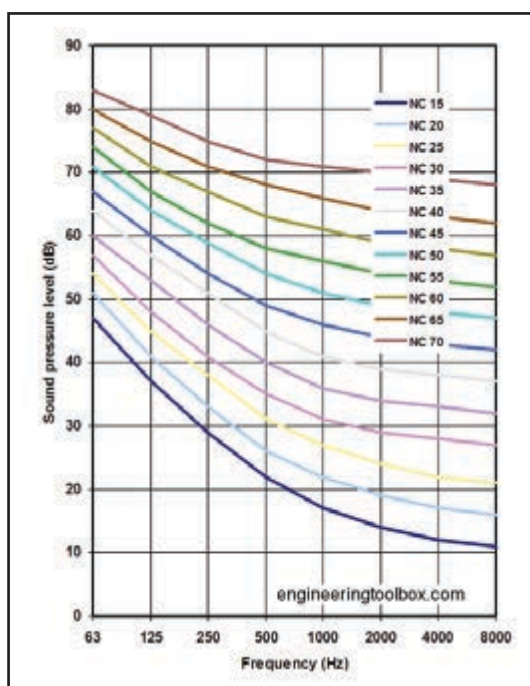

Figure 1: This is the noise criterion (NC) curve for a typical suburban home.^[1]
mask playback system distortion, such as higher-order harmonics of AC line hum or switching amplifier intermodulation distortion (IMD). Typical suburban homes have background noise levels of 30 to 38 dBA, with a noise spectrum corresponding to the Noise Criterion (NC) 30 curve (see **Figure 1**). Apartment noise levels are even higher.